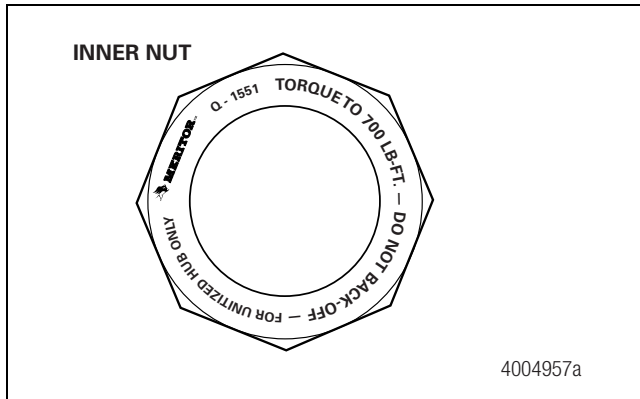

Figure 3.7
- The retention hardware inner nut is thicker than a conventional nut and is stamped with installation information. Figure 3.7.